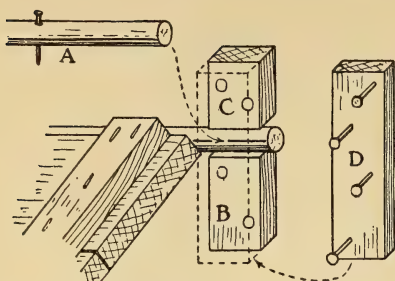

FIG. 510.—Sockets for the Drawbridge.
entrance (A, Fig. 510), and nail it to the lower edge of the drawbridge, then make a socket for each end of the broom-handle to set in, by nailing two blocks (B and C, Fig. 510) to the wall each side of the entrance, and nailing another block (D) over these to hold the broom-handle in place.